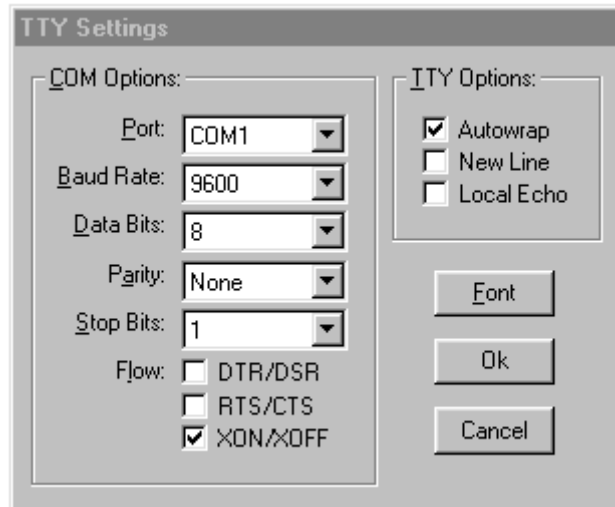

Figure 2-4. TTY Settings
3. Select the **Settings** menu block and configure the first port. Figure 2-4 shows the settings dialog that will be displayed.